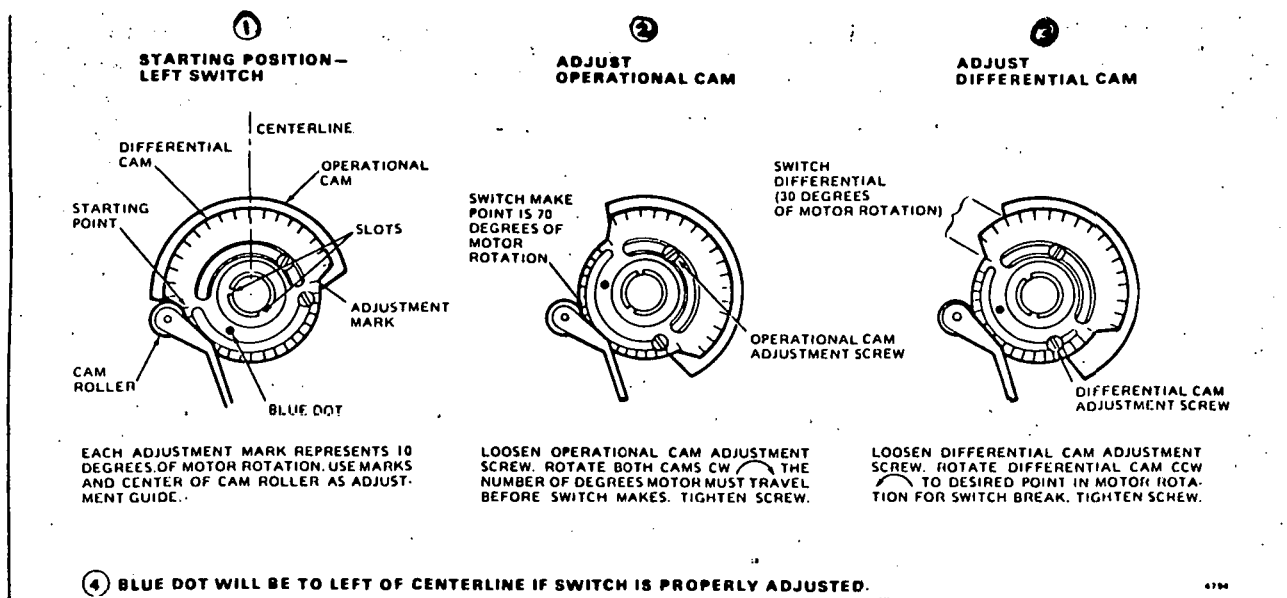

FIG. 15-ADJUST MAKE AND BREAK POINTS OF LEFT AUXILIARY SWITCH.
5. Adjust left switch (inner cam) first (Fig. 15).